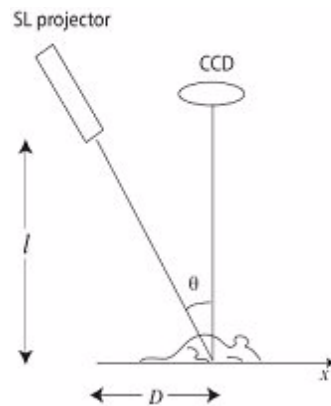

Figure H.2 Structured light projector and subject.
The parallel lines are projected onto the surface of the subject at an angle (θ). The angle is known by instrument calibrations of the distance between the structured light projector and the optical axis (D) and the distance between the stage and the structured light projector (l) (Figure H.2).